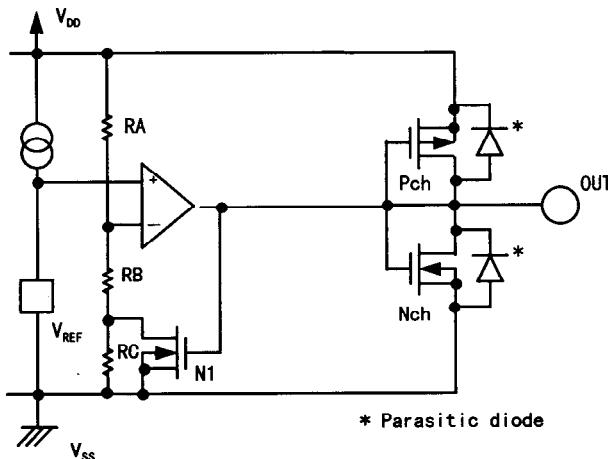
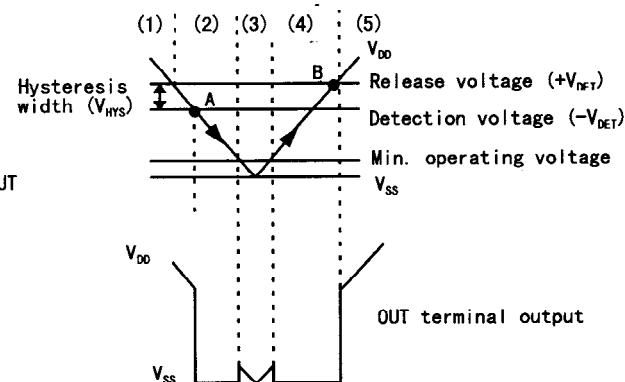

Figure 12
Figure 13
The hysteresis width is the voltage difference between the detection voltage and the release voltage ($B-A=V_{HYS}$ in Figure 13). By giving a device hysteresis, trouble such as noise at the input is avoided.
(1) When power supply voltage V_{DD} is greater than the release voltage $+V_{DET}$, the Nch transistor is OFF and the Pch transistor ON, causing V_{DD} (high) to appear at the output. With the Nch transistor N1 of Figure 12 OFF, the comparator input voltage is $(RB+RC)/(RA+RB+RC) \times V_{DD}$.
(2) When power supply voltage V_{DD} goes below $+V_{DET}$, the output maintains the power supply voltage level, as long as V_{DD} remains above the detection voltage $-V_{DET}$. When V_{DD} does fall below $-V_{DET}$ (A in Figure 13), the Nch transistor goes ON, the Pch transistor goes OFF, and V_{SS} appears at the output. With the Nch transistor N1 of Figure 12 ON, the comparator input voltage is $RB/(RA+RB) \times V_{DD}$.
(3) When V_{DD} falls below the minimum operating voltage, the output becomes undefined. However, output will revert to V_{DD} if a pull-up has been employed.
(4) V_{SS} will again be output when V_{DD} rises above the minimum operating voltage. V_{SS} will continue to be output even when V_{DD} surpasses $-V_{DET}$, as long as it does not exceed the release voltage $+V_{DET}$.
(5) When V_{DD} rises above $+V_{DET}$ (B in Figure 13), the Nch transistor goes OFF, the Pch transistor goes ON, and V_{DD} appears at the output.